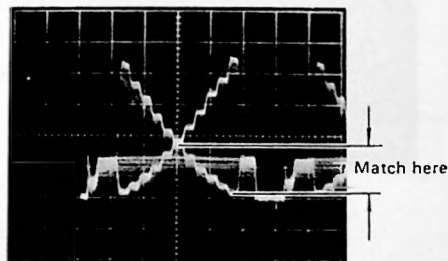

Fig. 4-4-28
- Connect the oscilloscope to TP212 (B) and TP214 (Y_L).
- Overlay the B signal and Y_L signal on the oscilloscope, and adjust Rc/Bc GAIN VR216 so that the signal level between the black chip (zero step) and fifth step (crossing step) of the gray scale waveform match. (Fig. 4-4-28)